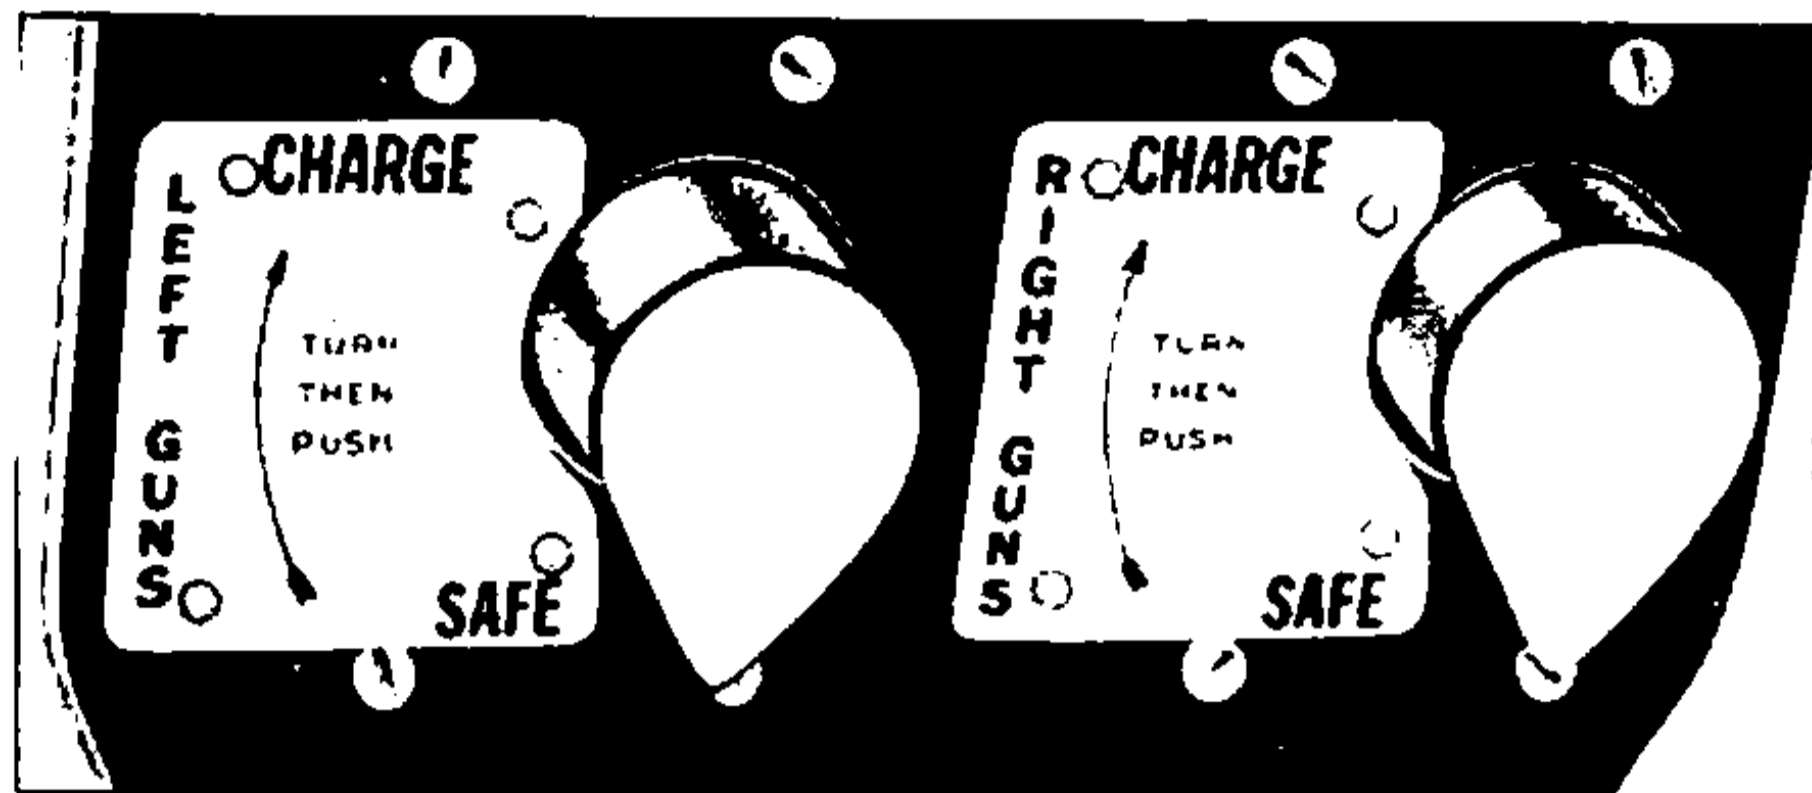

Figure 36 — Gun Charging Controls
(1) GENERAL. — The F2G-1 airplane has four .50 caliber machine guns mounted two in each outer wing panel. The F2G-2 has three guns in each panel. The ammunition boxes carry 400 rounds for each gun except that the two extra guns of the F2G-2 have only 375 rounds each.
(2) GUN CHARGING. (See figure 36.)